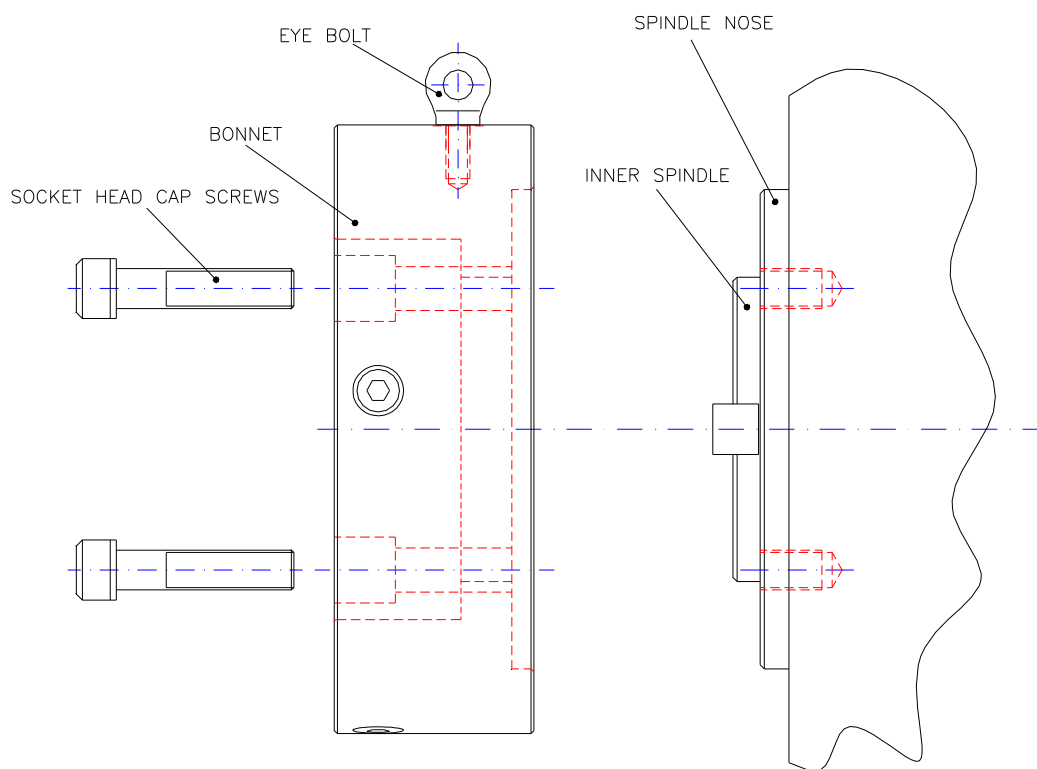

Fig 1.01 Fitting the bonnet to the spindle nose
1. Using an eyebolt and ensuring both the bonnet and spindle nose location diameters are thoroughly clean carefully lift the bonnet and locate it onto the spindle nose of the machine,. Secure the bonnet in position with the four socket head cap screws (See *fig 1.01*)